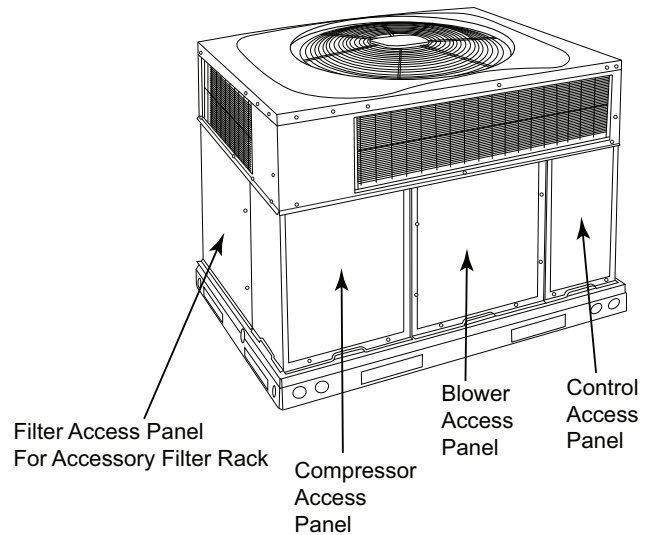
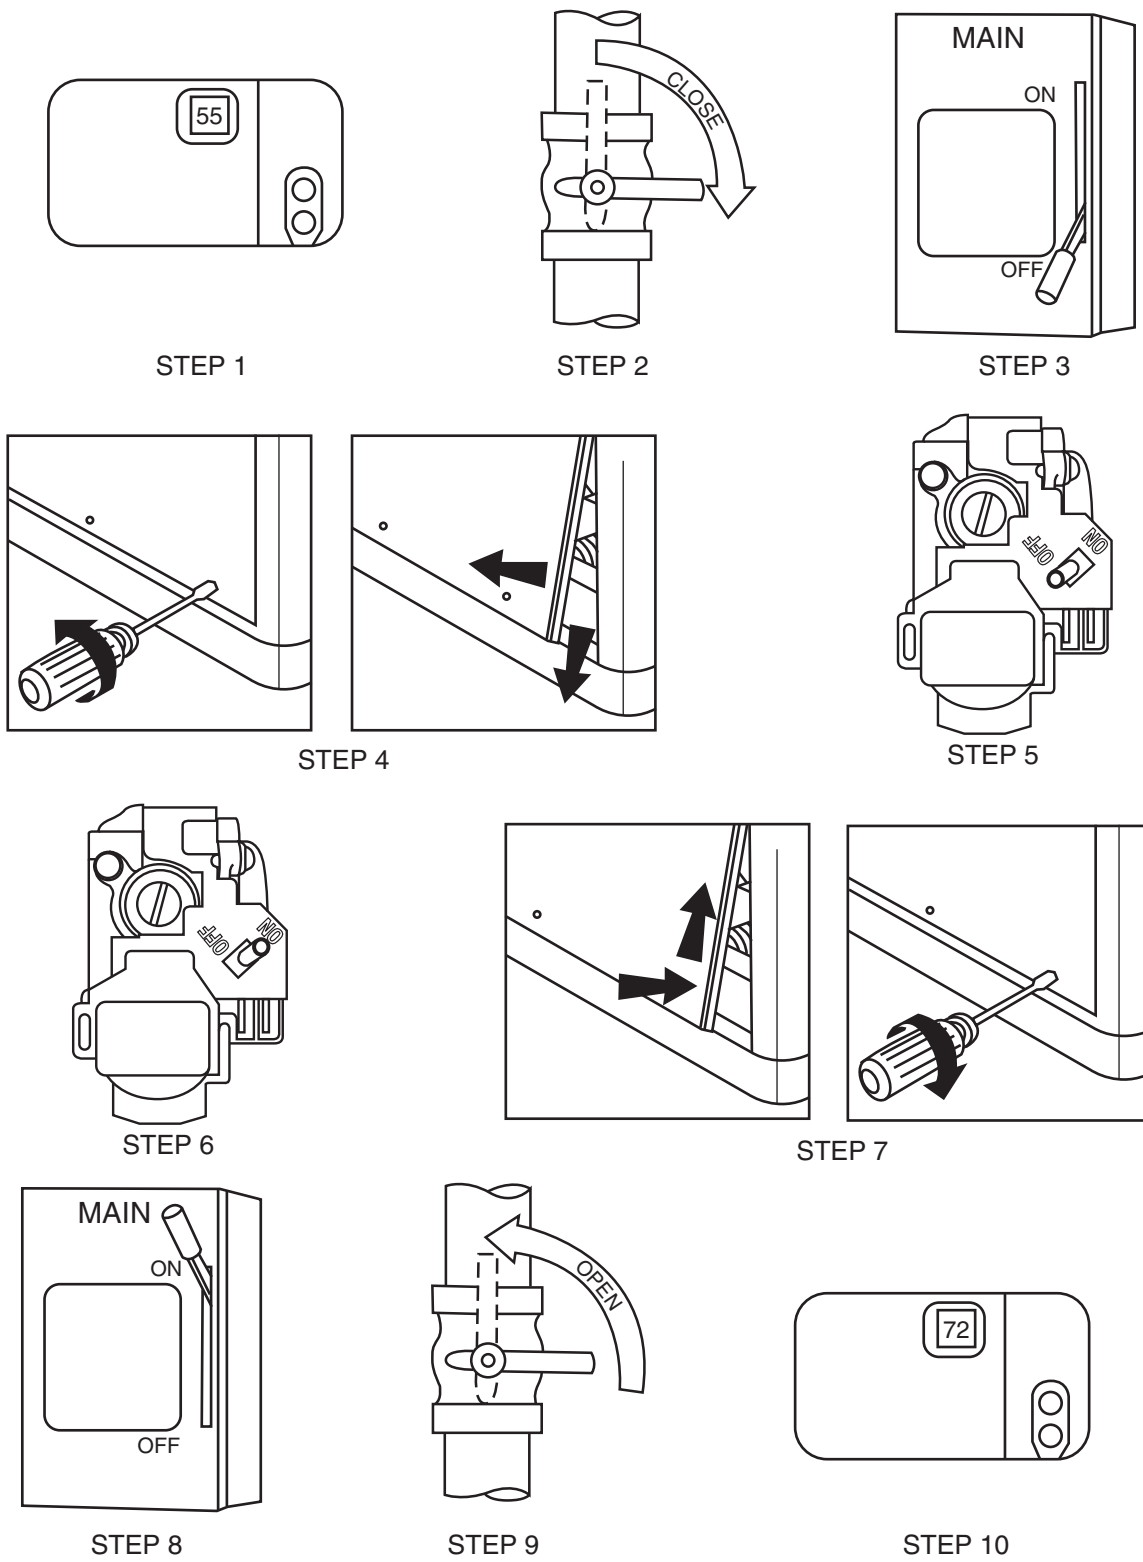

Fig. 3 - Unit Access Panel
Fig. 5 - To Start Unit Gas Heat
Refer to Fig. 3 for location of unit front access panel. Refer to Fig. 4 for location of gas valve. Refer to Fig. 5 while proceeding with the following steps.
4. Remove the control access panel with a 5/16-in. nut driver. (See Fig. 3.)
4. Remove the control access panel. (See Fig. 3.)
Table 1 indicates the correct indoor filter size for your unit. Refer to Fig. 3 to access filters installed in the accessory filter rack. If using an Accessory Filter Rack, refer to the Installation Instructions provided with it for correct filter sizes and quantities.
To replace or inspect filters in accessory filter rack (See Fig. 3):